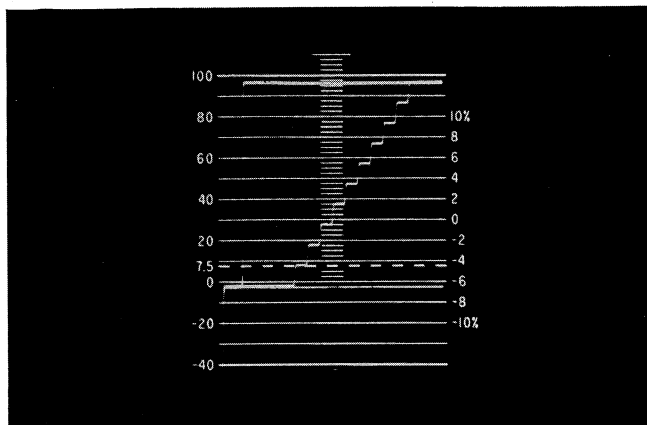

Fig. 6-20. Typical transient response of luminance filter and vertical amplifier together.
h. CHECK—Type 520 display; waveform should have a flat top with minimum aberrations (aberrations less than 1% in amplitude); see Fig. 6-20.
i. ADJUST—VERT TRANS RESP, R849, C848, L838 and L858 located on the output amplifier board, see Fig. 6-8, for a waveform having a flat top with minimum aberrations; see Fig. 6-20.